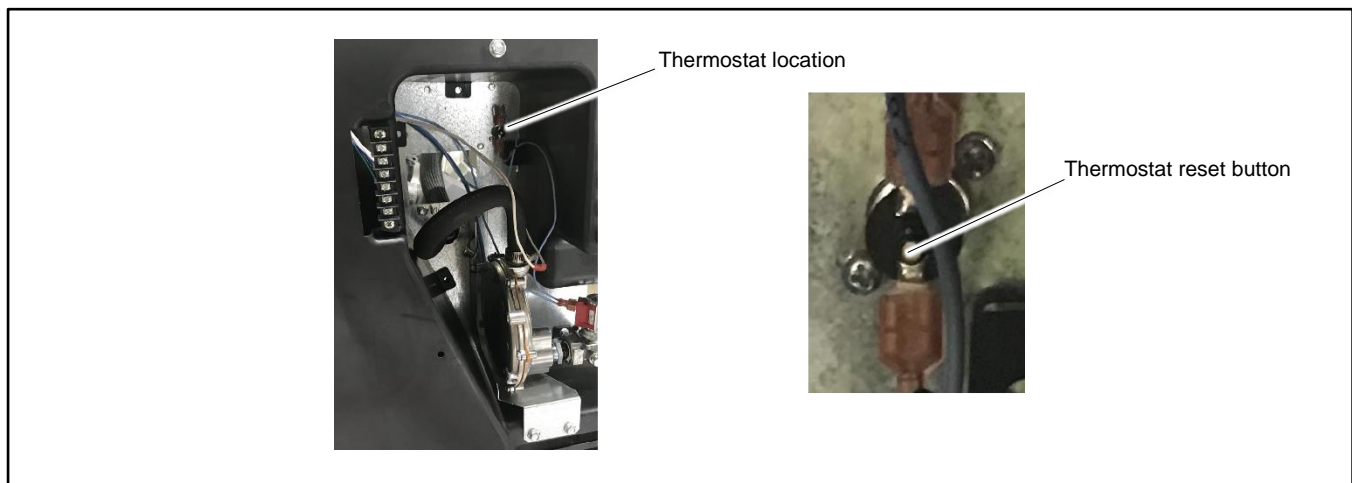

Figure 53 Thermostat Location
See Figure 53 for the thermostat location.
4. See Figure 53 for the thermostat location. Press the button on the thermostat to reset it.